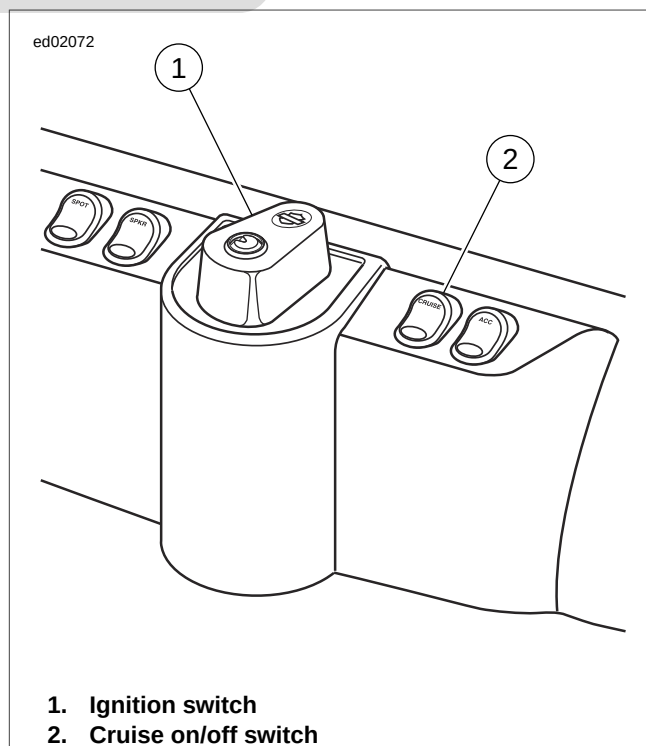
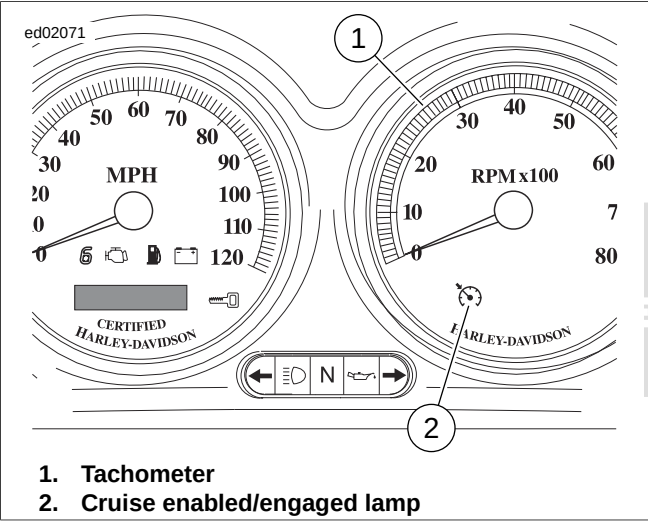

Figure 5-7. Fairing Cap (FLHTCU)
Figure 5-9. Instrument Panel (FLHTCU - typical)
1. While riding in fourth, fifth or sixth gear, turn the cruise on/off switch to the ON (lamp illuminated) position. See Figure 5-7. The switch is located on the fairing cap of FLHTCU models, the instrument nacelle of FLTR models and the left handlebar lower switch housing on FLHRC models. The cruise enabled/engaged lamp in the tachometer face (speedometer on FLHRC models) turns orange to indicate the system is activated. See Figure 5-9. An orange lamp in the switch on both FLHTCU and FLTR models also indicates this condition to the rider.
3. See Figure 5-9. The ECM monitors the VSS to establish the desired vehicle speed. The ECM then modulates the throttle control actuator to maintain vehicle speed. The cruise enabled/engaged lamp in the tachometer face
See Figure 5-9. In the diagnostic mode, the cruise enabled/engaged lamp is employed as a test indicator. The lamp is in the tachometer face (speedometer on FLHR/C models).